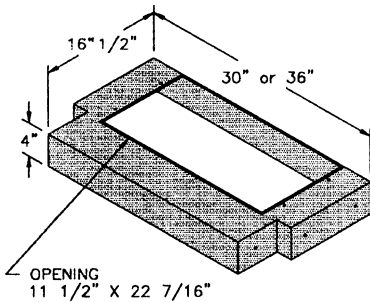

Figure 2
3. T-shaped Metal Liner, Figure 2